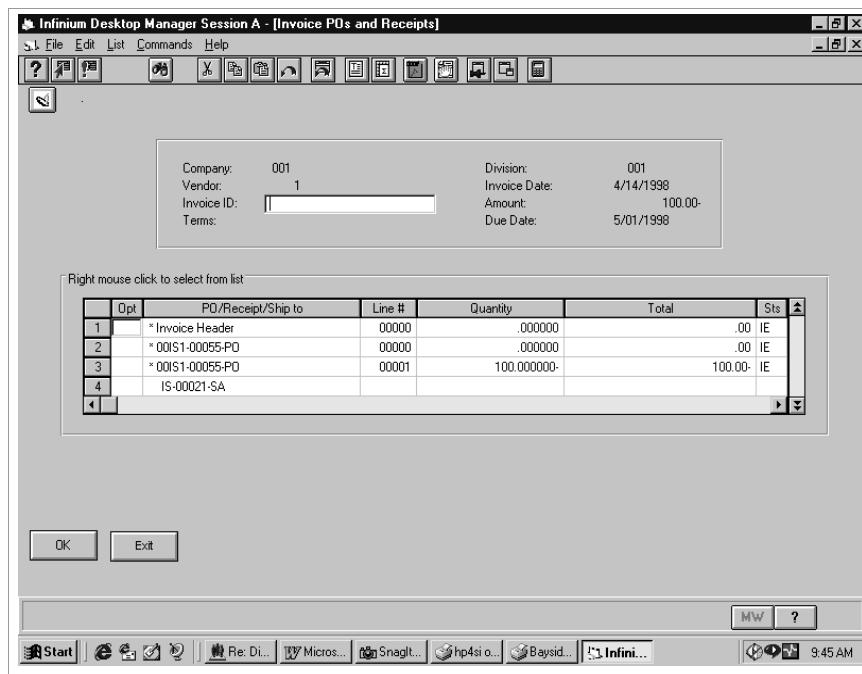

Figure 8-5: Invoice POs and Receipts screen
- 7 Press Enter. The system displays the screen shown in Figure 8-5.
- 10 Press Enter at the Invoice Header screen to return to the Invoice POs and Receipts screen illustrated in Figure 8-5.
- 12 Press Enter. The system returns you to the Invoice POs and Receipts screen illustrated in Figure 8-5.